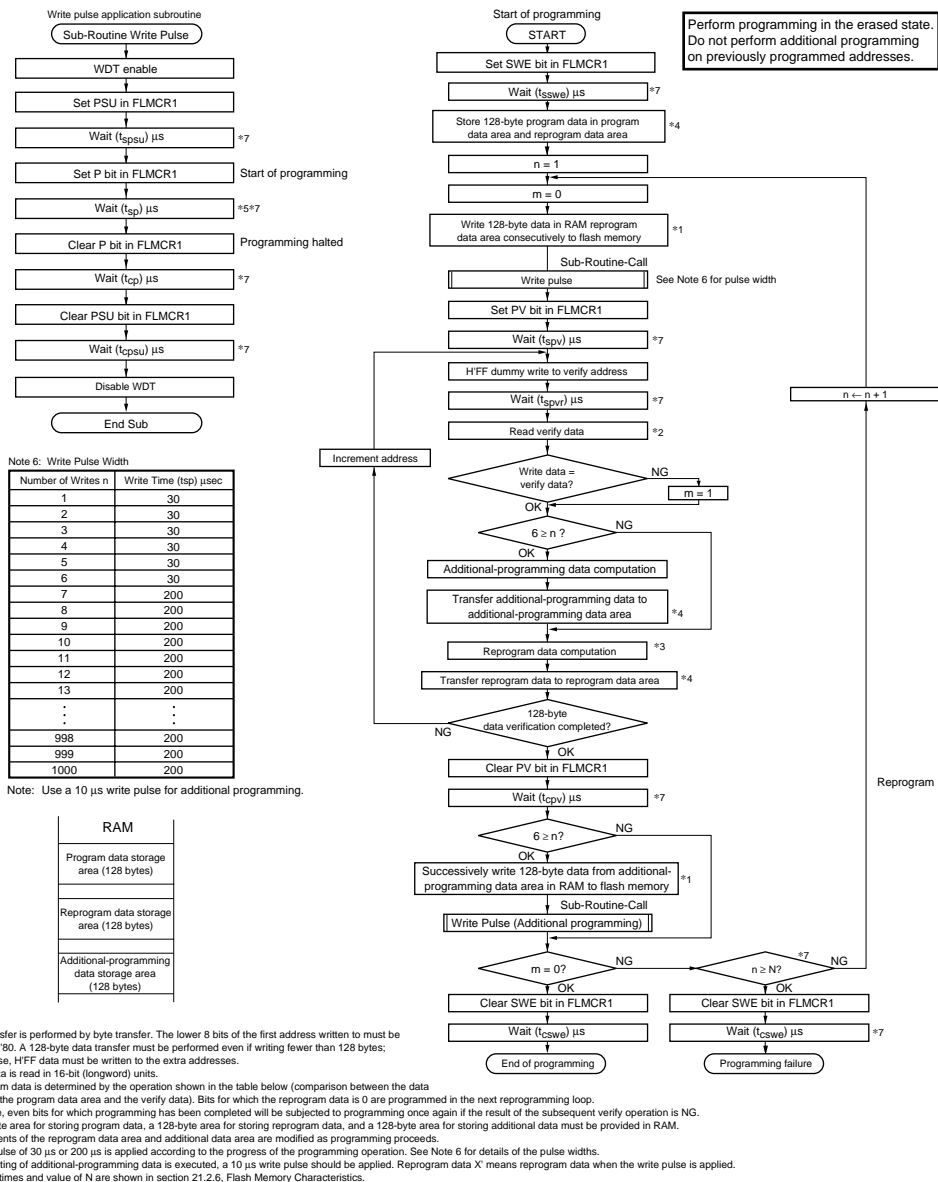

Figure 18.11 Program/Program-Verify Flowchart (128-Byte Programming)
When writing data or programs to flash memory, the program/program-verify flowchart shown in figure 18.11 should be followed. Performing programming operations according to this flowchart will enable data or programs to be written to flash memory without subjecting the device to voltage stress or sacrificing program data reliability. Programming should be carried out 128 bytes at a time.
before performing this read operation. Next, the originally written data is compared with the verify data, and reprogram data is computed (see figure 18.11) and transferred to RAM. After verification of 128 bytes of data has been completed, exit program-verify mode, wait for at least (t_{cpv}) μ s, then clear the SWE bit in FLMCR1. If reprogramming is necessary, set program mode again, and repeat the program/program-verify sequence as before. The maximum number of repetitions of the program/program-verify sequence is indicated by the maximum programming count (N). Leave a wait time of at least (t_{cswe}) μ s after clearing SWE.
6. The program/program-verify flowchart for the H8/3024F-ZTAT version is shown in figure 18.11.